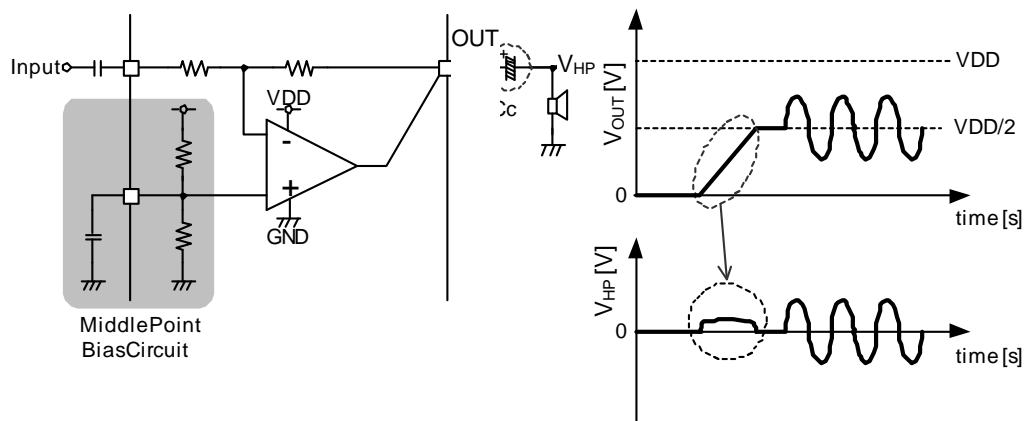

Figure 23. Conventional Headphone Amplifier Circuit
Figure 23 shows the conventional headphone amplifier circuit. In this circuit, the signal is outputted using the middle point bias circuit based on the middle point bias. Therefore, the output coupling capacitor that removes the DC voltage difference and does the AC coupling is necessary. This coupling capacitor and the impedance of the headphone compose the high-pass filter. Therefore, the signal degradation in the low frequency region is experienced. The output coupling capacitor should be of large capacitance because the cutoff frequency of this high-pass filter follows formula (1).